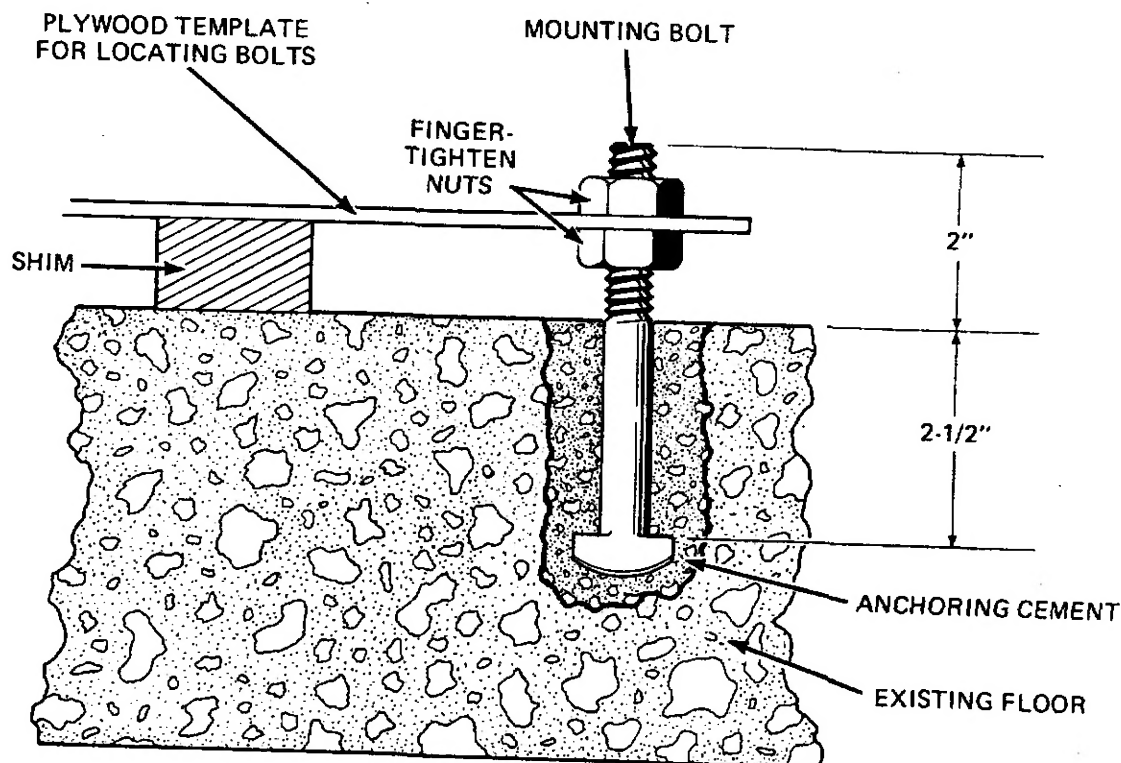

Figure 1
- b. Drill six, 1-1/4 inch diameter holes in concrete floor between 3 and 3-1/2 inches deep. See Figure 1.
- d. Fasten mounting bolts to plywood template with nuts. See Figure 1.
- i. Shim template until all mounting bolts are in holes same depth (bottom of thread even with floor). See Figure 1.